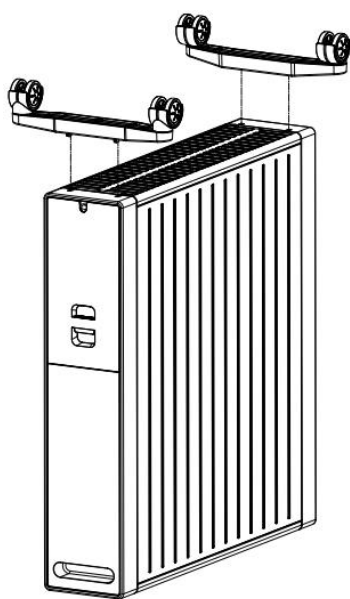
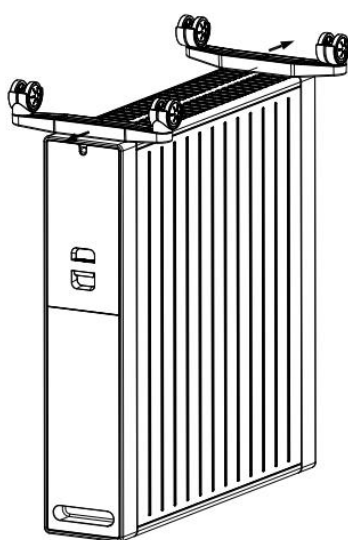

Fig 1
Fig 2
2. Place the wheel bases into the two holes on each side, and then push the wheel bases outward to the right position (Fig 1 & Fig 2).